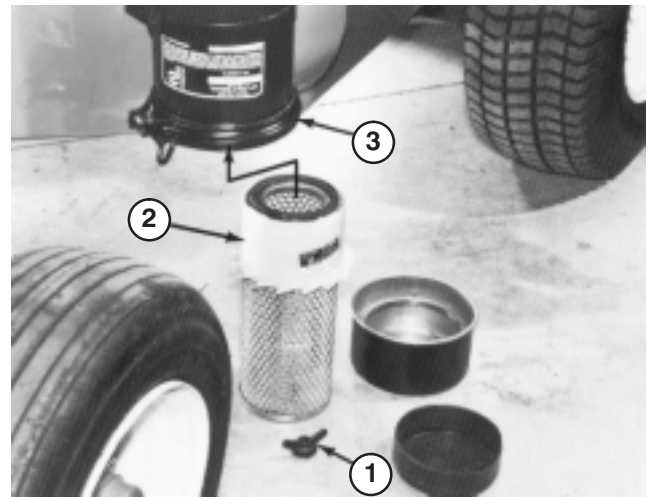

Figure 31
2. Remove wing nut w/gasket and slide filter element out of air cleaner body (Fig. 31).